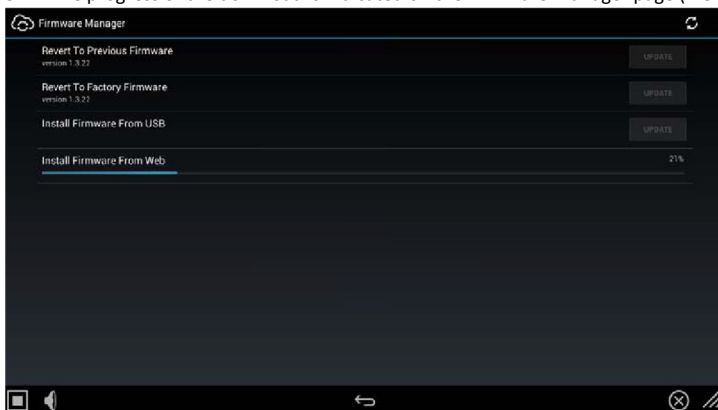

FIG. 124 Firmware Manager page - Install Firmware From Web (in progress)
5. The progress of the download is indicated on the Firmware Manager page (FIG. 124).